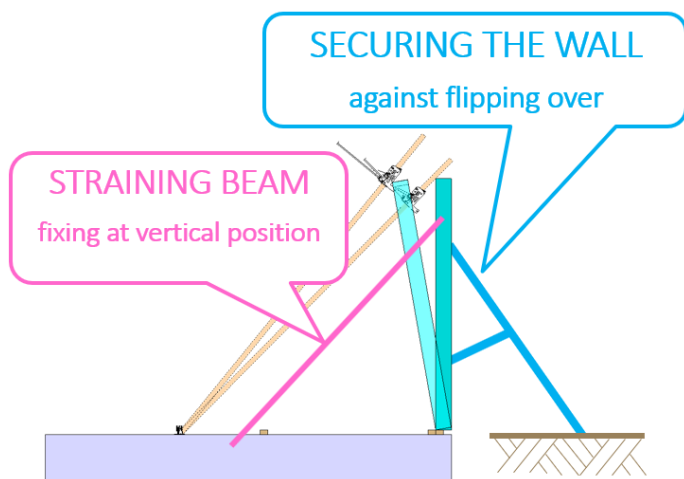

Figure 18
- Before lifting the wall to the final position make sure, that the wall is secured against flipping over the reverse side, as it is shown in Chapter 5.5 in point (5). Means screw up the straining beams on the wall to be able to secure it early from falling down or flipping over.
- Before lifting the wall to the final position make sure, that the length of the rising joist is sufficient and the joist has a necessary overlap, as it is shown at Figure 18.